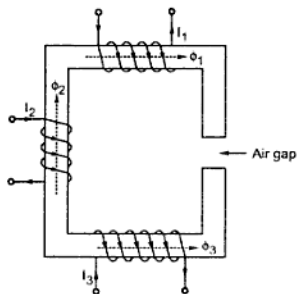

Fig. 3.71 (a)
As shown in the Fig. 3.71 (a) m.m.f of coil (1) and (2) are in same direction while m.m.f. of coil (3) is in opposite direction.